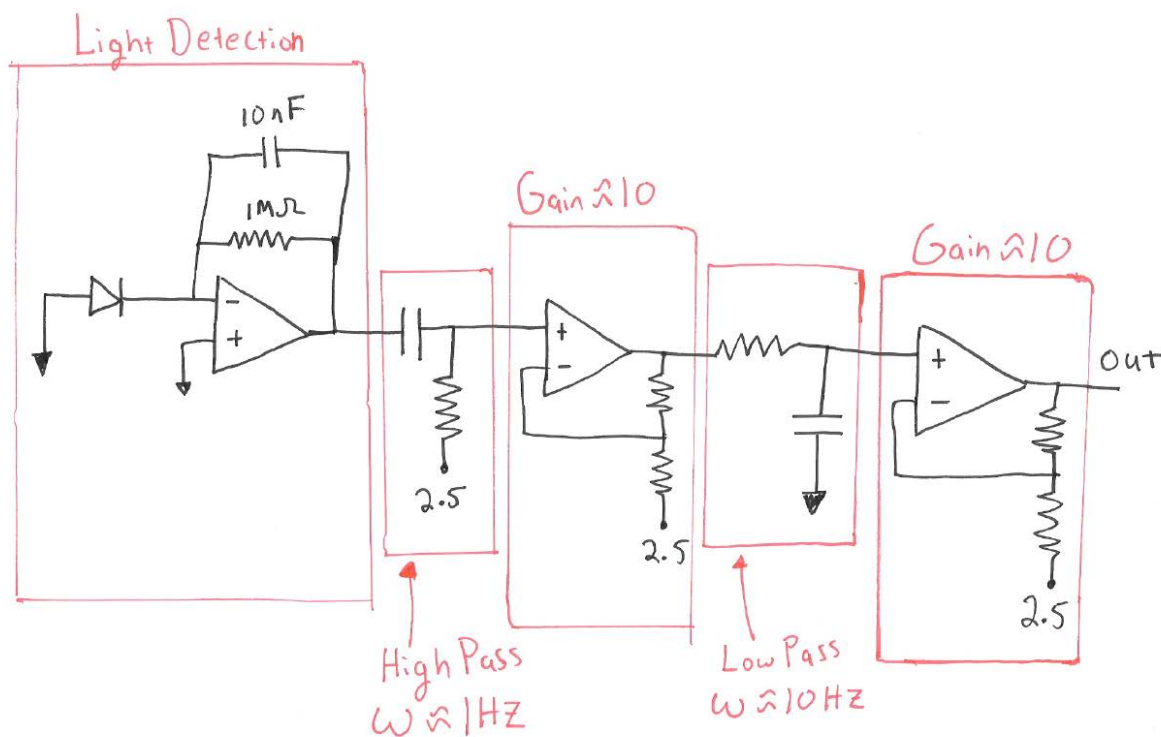

Figure 2: Circuit to measure the variation in light intensity through your finger.
finger. Your blood changes color (slightly) based on levels of oxygenation, and thus the intensity of light that passes through your finger fluctuates with your pulse. A simple pulse measurement circuit is shown in Figure 2.
- 1) Your final circuit schematic, i.e. a copy of figure 2 but with your final values selected. You can hand sketch it. Include the resistor values on the schematic. Include the actual cutoff frequencies and amplifier gains as part of the block diagram (as in Figure 3). You can sketch the circuit, but it should be neat enough that someone else in the class could build the circuit off your drawing.
- 2) If you are not behind, taking Figure 2 as the starting point, try to design a more effective pulse detector using the same basic circuit but with perhaps a little more aggressive filtering, amplification or achieve the same function with fewer components. Compare your results to ours. Include your circuit design with some rationale in your lab report.